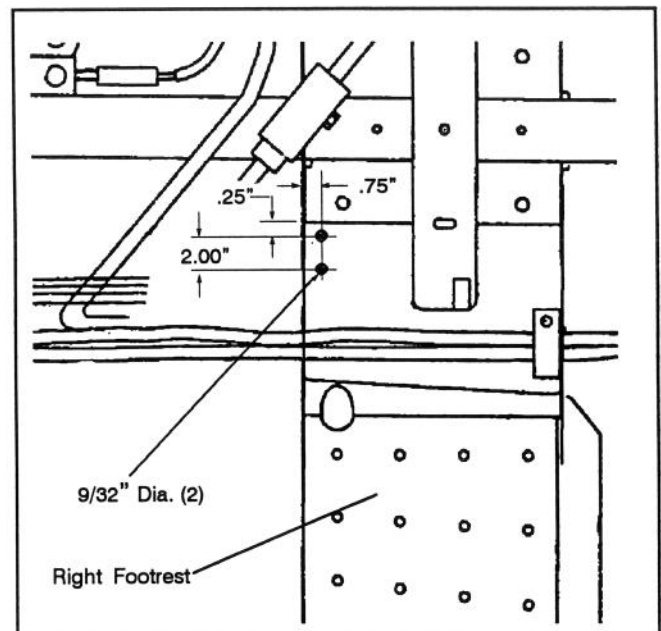

Figure 1
23. Using dimensions shown in figure 1, locate, mark and drill (2) 9/32" dia. holes in right footrest.